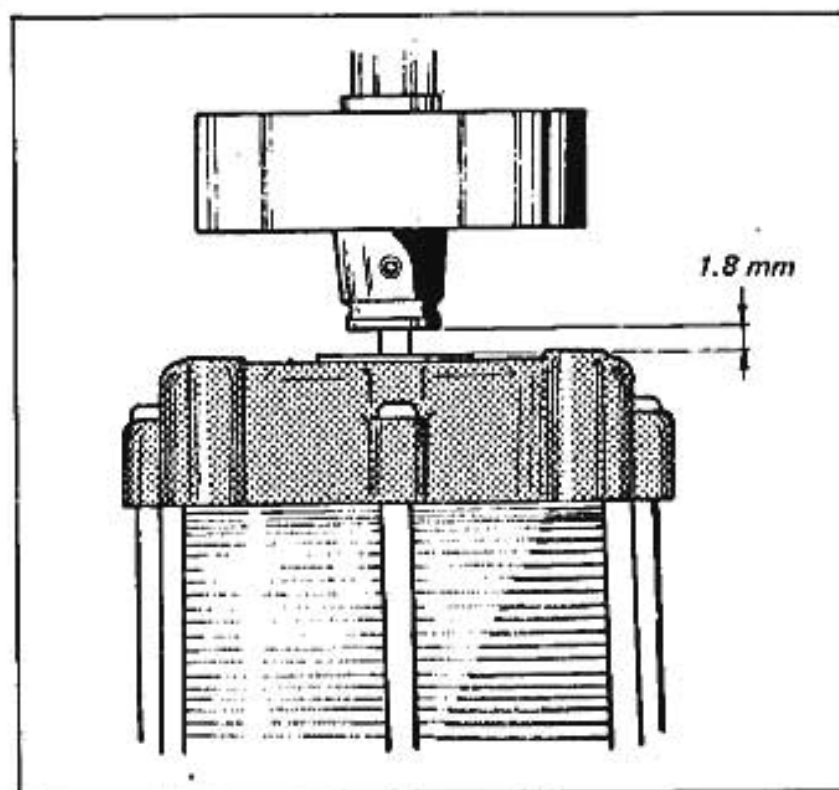
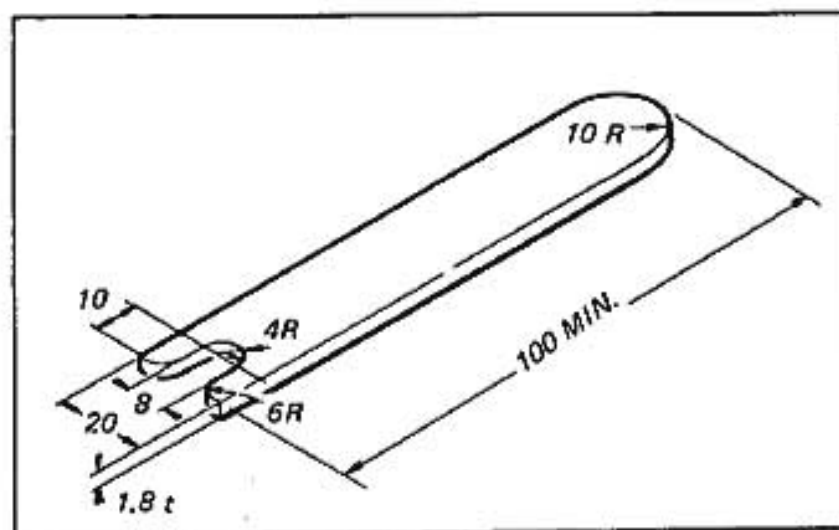

Fig. 10-14 Proper clearance between the reel motor and the brake drum
Fig. 10-15 A handmade tool for obtaining to proper clearance
- 3) Insert the two brake drums 3, 6 into the two reel motor shafts and tighten the four S type screws 1, 2, 4, 5 partially. Obtain, then, the correct positioning of the brake drums so that the clearance between the brake drum and the reel motor is approximately 1.8 mm as shown in Fig. 10-14. Tighten the two S type screws 2, 5 first and then the two screws 1, 4. In addition, for easily obtaining the proper clearance between the drum and the motor, use of a handmade tool as in Fig. 10-15 is recommended.